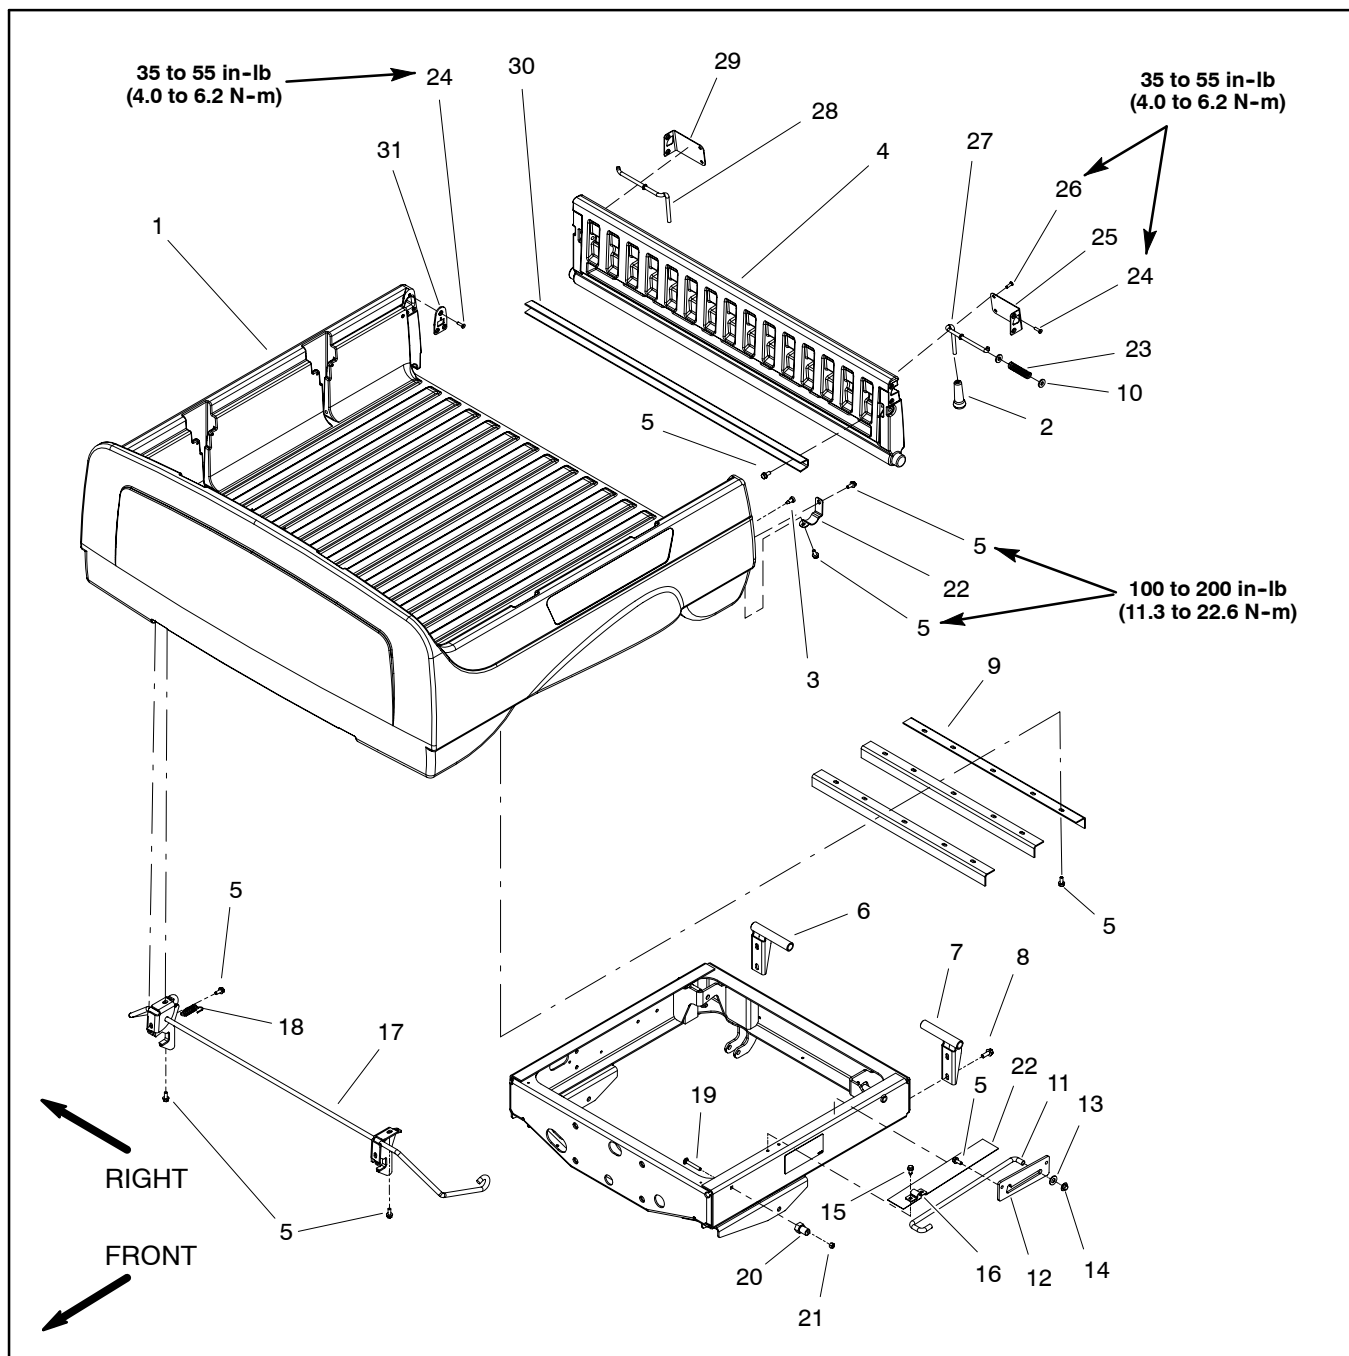

Figure 33
Removal (Fig. 33)
2. Disassemble cargo box as necessary using Figure 33 as a guide.
Installation (Fig. 33)
1. Assemble cargo box using Figure 33 as a guide.
- A. When installing tailgate and tailgate hardware, use torque specifications identified in Figure 33.
- B. Adjust latch pin (item 20) so that cargo box is tight to frame when latched.